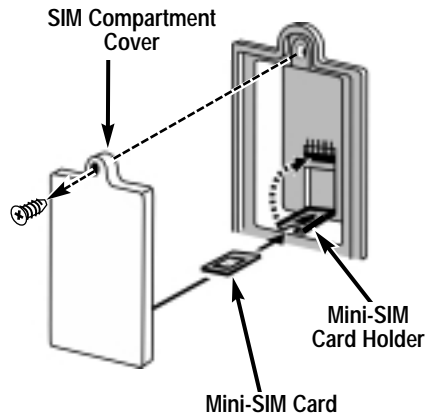

Figure 12 - Mini-SIM Card Installation
- 5) Gently insert the mini-SIM card in the slot of the SIM card holder - See **Figure 12**.